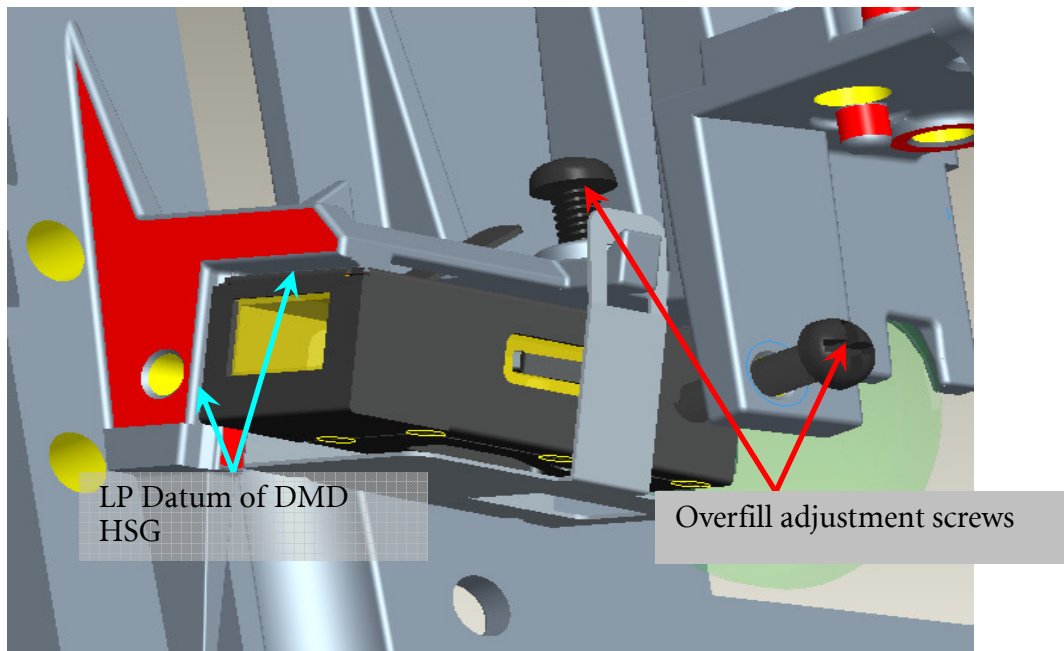

Fig. 1-4
- iii. Placed LP Module on LP datum of “DMD HSG” and adjustment screw well, shown(Fig. 1-4).